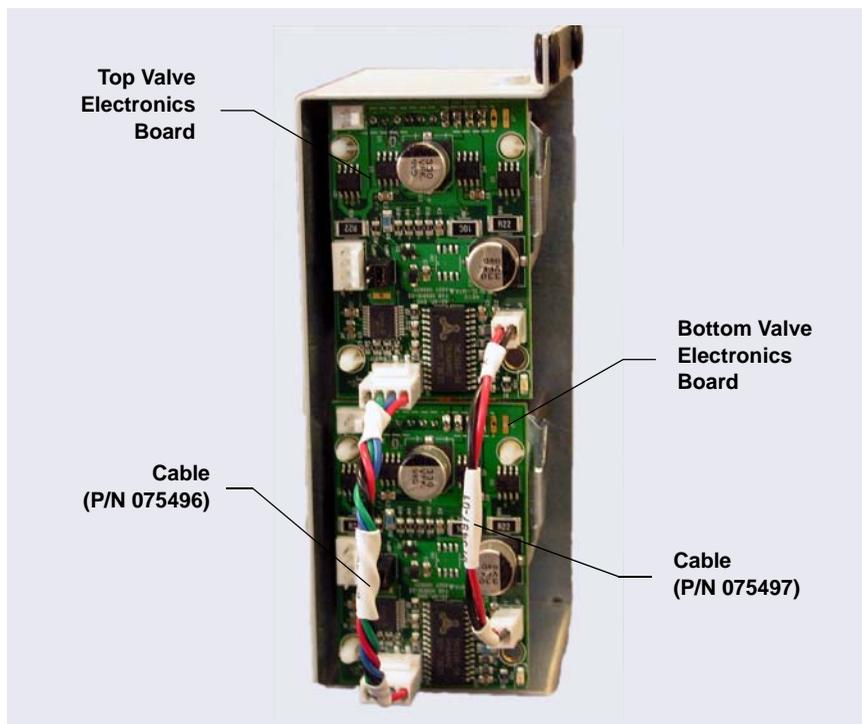

Figure C-14. Rear of Valve Mounting Bracket with Cables for the Second Valve Connected
7. Locate the two cables provided with the valve. Connect each cable between the electronics boards on the top and bottom valves as shown in Figure C-14.